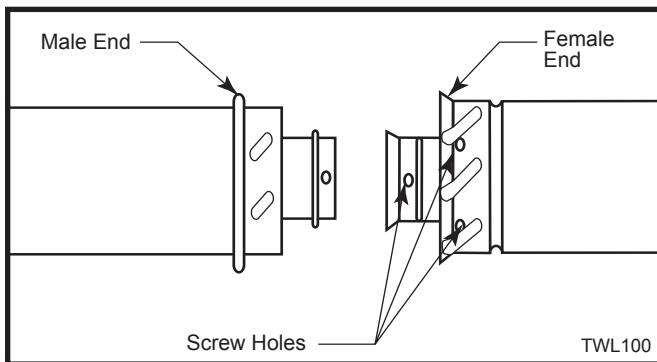

Fig. 17 Twist-Lock pipe joints.
To join the pipes together, simply align the beads of the male end with the grooves of the female end, twisting the pipe until the flange on the female end touches the external bead on the male end. Secure the joints with three (3) sheet metal screws. (Fig. 17)